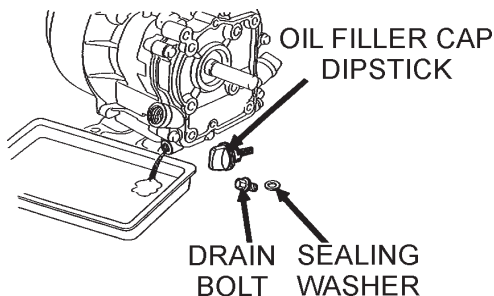

Figure 14. Engine Oil (Draining)
1. Drain the engine oil when the oil is **warm** as shown in Figure 14.